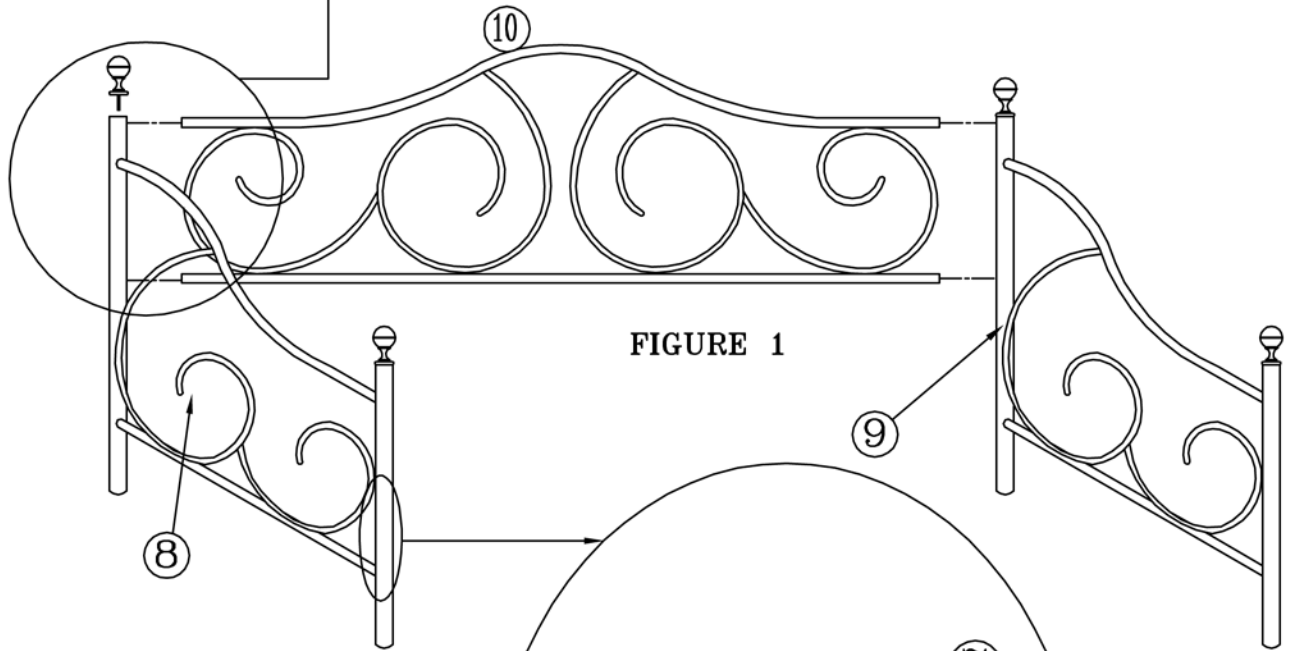

FIGURE 1
- Align rail ends of back grill (10) to holes in left side (8) back post. Place seating rings (3) between connection. (See Figure 1 & 2)
- Secure grill to post by using screw (1). DO NOT TIGHTEN SCREWS.
- Repeat same step for assembly of right side (9) back post to back panel. (See Figure 1 & 2)
- Screw in finials (11) onto top of posts. (See Figure 1 & 2)